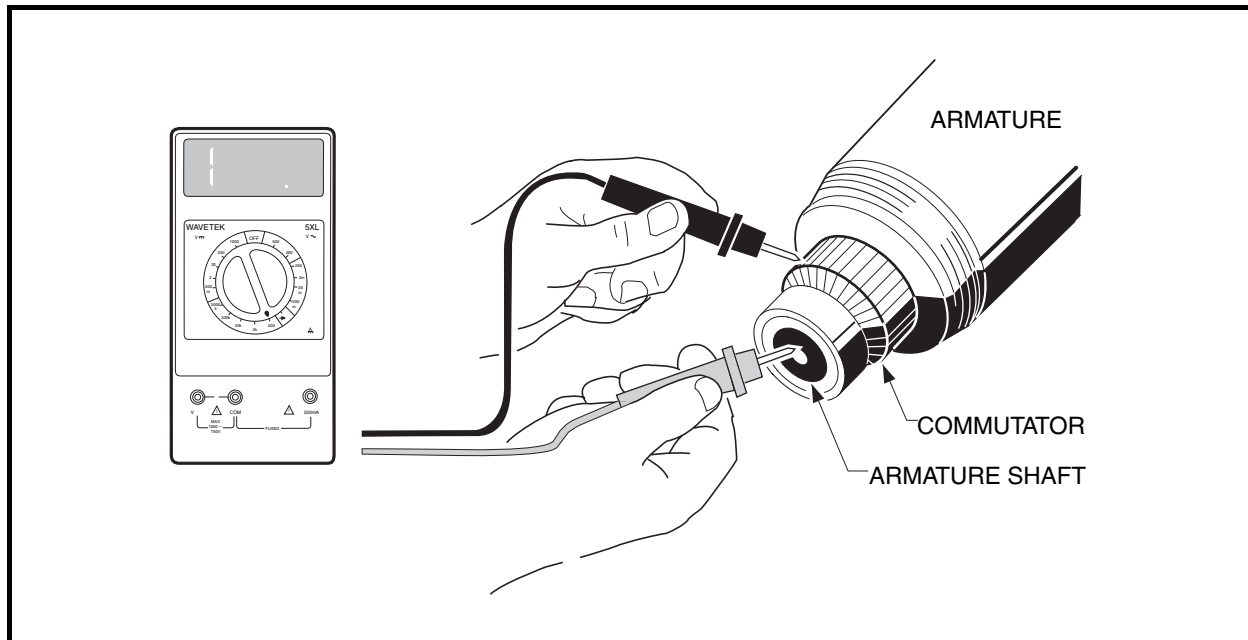

Figure 12-12 Armature Ground Test
1. Using a multimeter set on 200 (ohms), place the positive (+) probe on the commutator bars and the negative (–) probe on the armature core. The reading should be no continuity. If the reading is incorrect, replace the armature and the two bearings (**Figure 12-12, Page 12-8**).